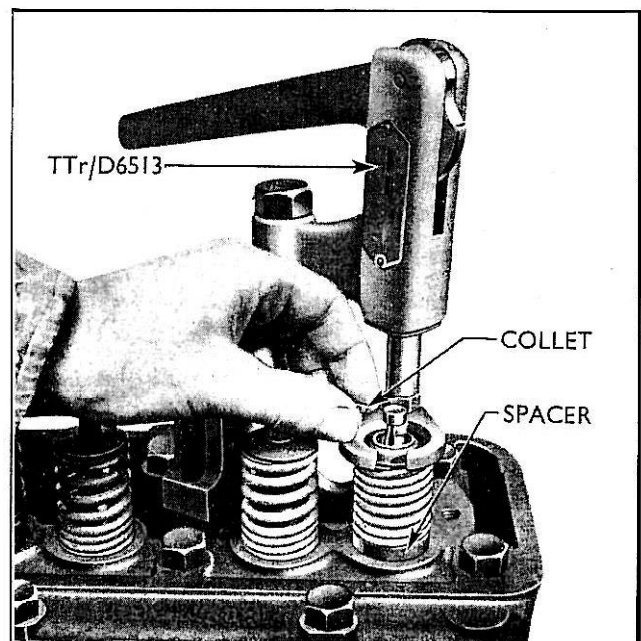

Fig. 6
- 3 Refit a rocker shaft support bolt adjacent to the affected valve, slide the block of the valve spring compressor (tool No. TTr/D 6513) under the bolt head and tighten down the bolt. Pull down the cam handle to compress the valve and extract the collets. (See Fig. 6.)